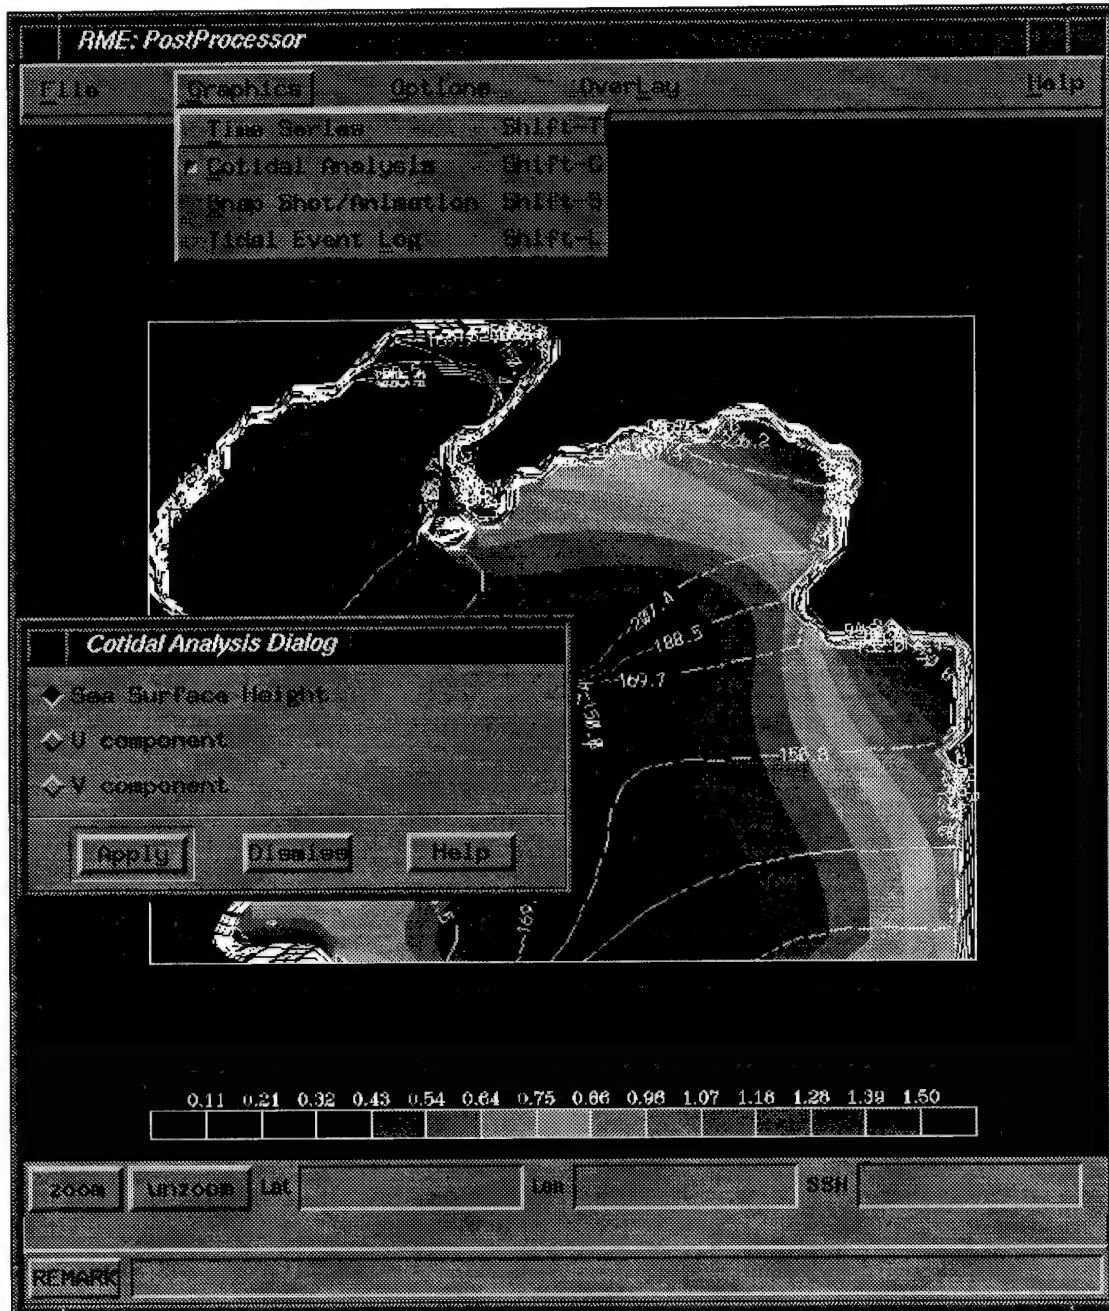

Figure 30 – The co-tidal analysis window in the Post-Processor
1. Click on the 'Cotidal Analysis' toggle button under the 'Graphics' pull down menu. This pops up a 'Cotidal Analysis Dialog' window (Figure 30).